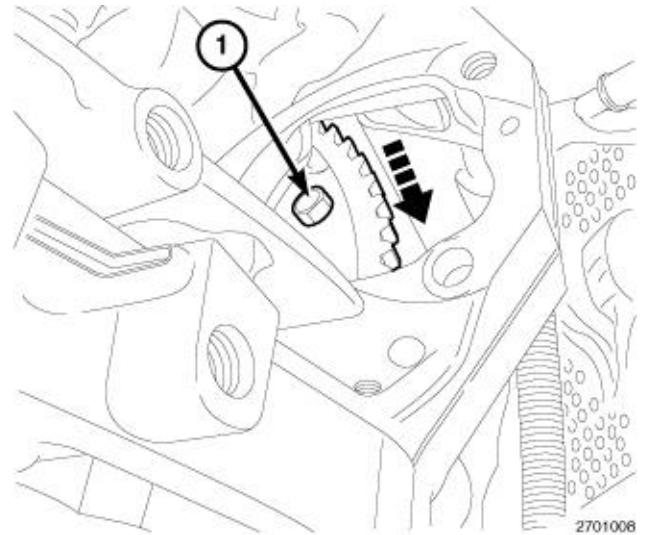

Figure 25 – Torque Converter Bolt
- 47. Rotate the crankshaft in a clockwise direction for access, and through the starter opening, remove the six torque converter bolts (1) (Figure 25).